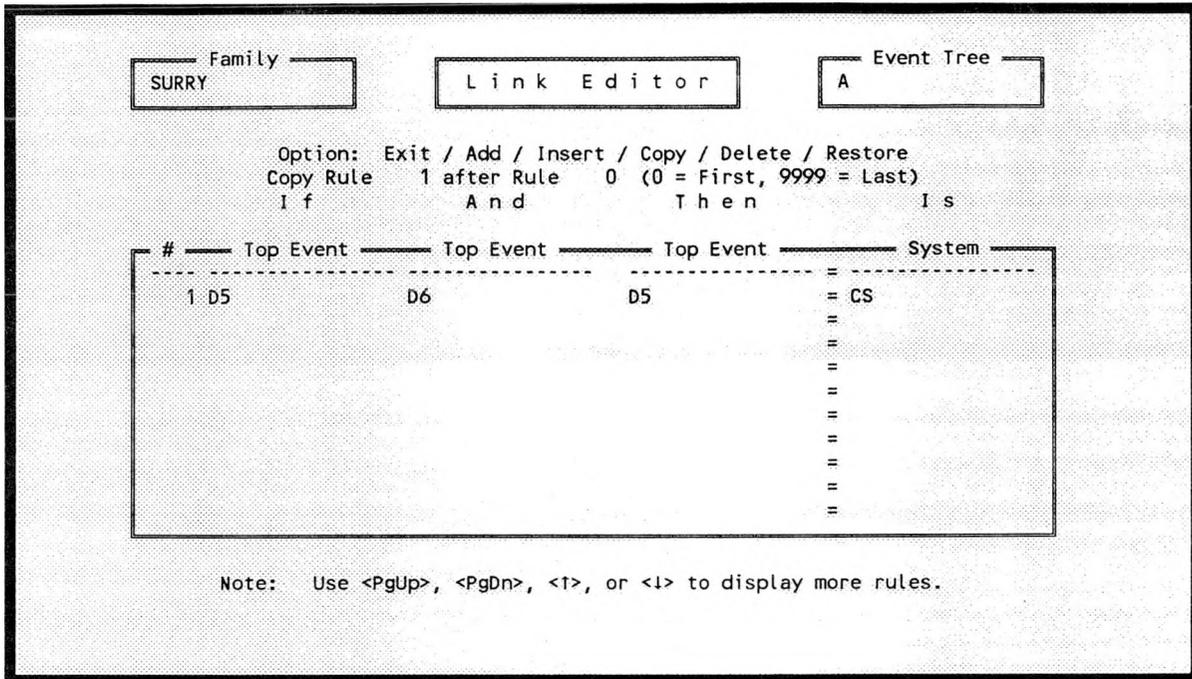

Figure 245. Copy linkage rules menu.
7.6.3.4 Copy. This option copies one rule after another. Figure 245 contains the copy menu. The rule number closest to the cursor will be in the first blank, but you may enter any other existing rule in its place. To copy the desired rule, enter an existing rule in the second blank and a copy of the first rule will be placed after the second rule.